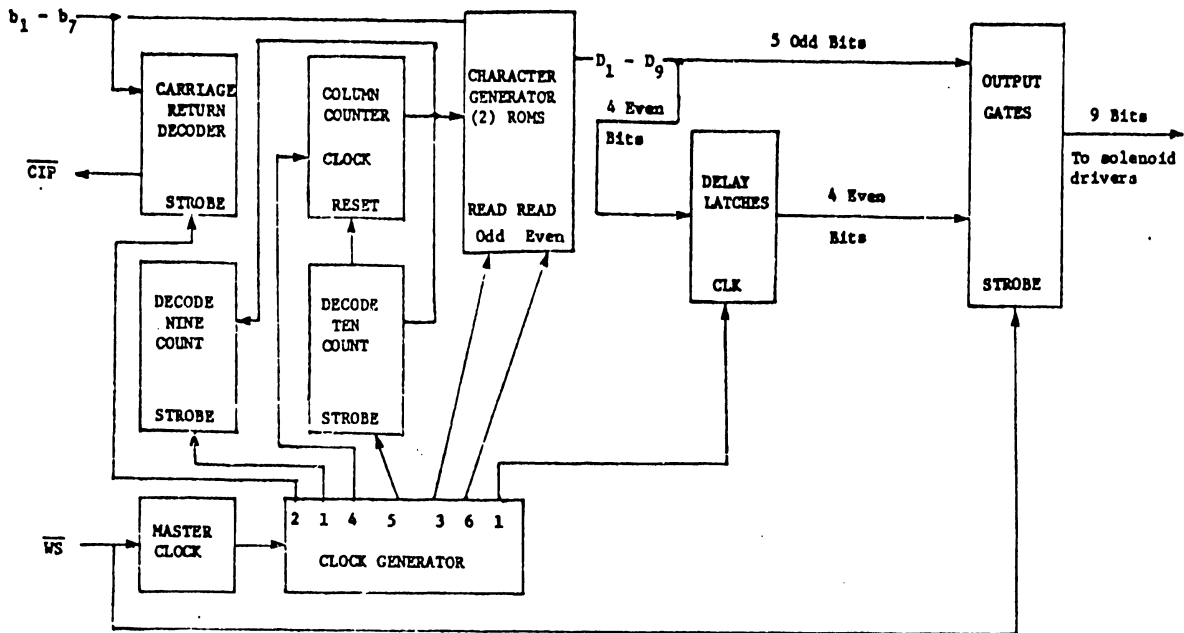

FIGURE 4-4
4.3.5 Print Operation (Figure 4-4)